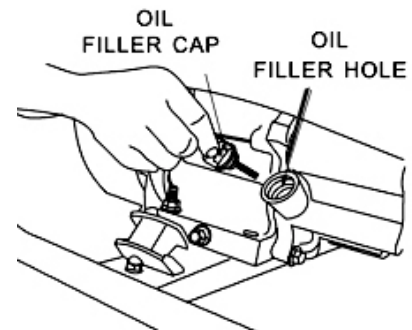

Figure 11 - Checking the Oil
2. Unscrew the oil filler/dipstick cap from the engine as illustrated in Figure 11.
2. Unscrew the oil filler/dipstick cap from the engine as illustrated in Figure 11 above.